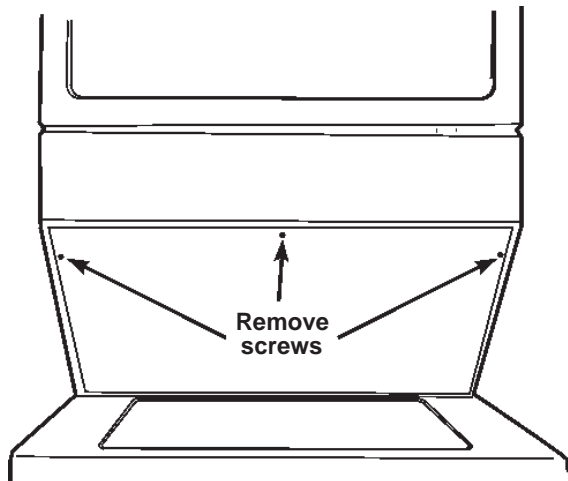

Figure 6
2. Remove lower transition panel by removing three (3) screws. See Figure 6.